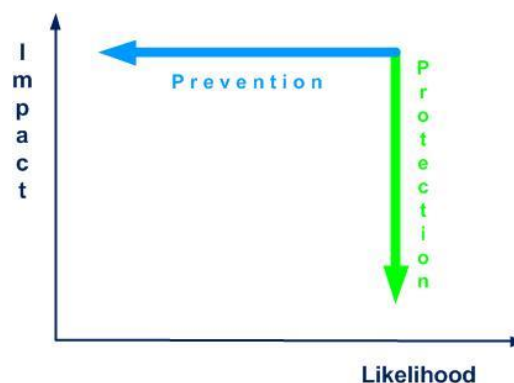

Figure 2-1. Prevention and protection
- prevention and protection, cf. figure 2-1